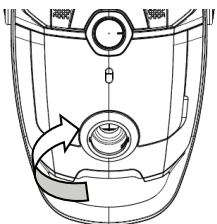

Fig. 9
Release the front cover lock (2) to open the front cover (3) (Fig 9).